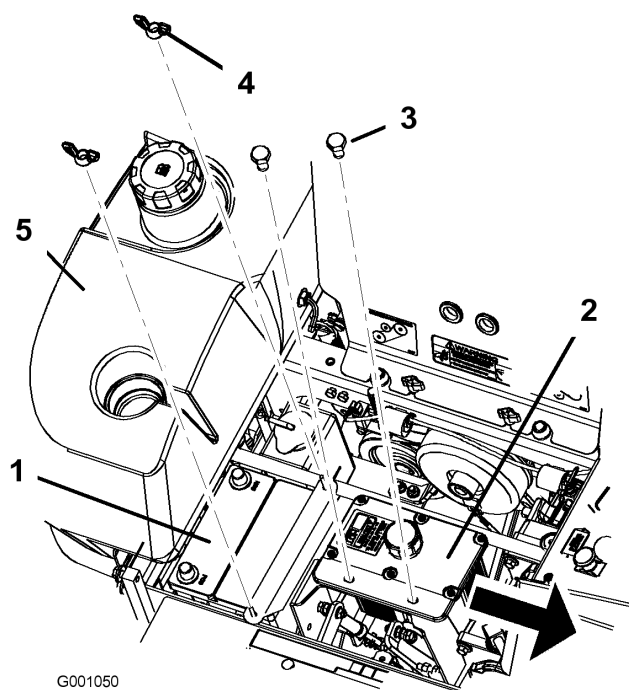

Figure 43
6. Remove both wing nuts (1/4 inch) securing the battery clamp (Figure 43).
7. Remove the two bolts holding the hydraulic tank in place (Figure 43).
6. Secure battery with J-bolts, hold down clamp and 2 washers (1/4 inch), and 2 wing nuts (1/4 inch) (Figure 43).